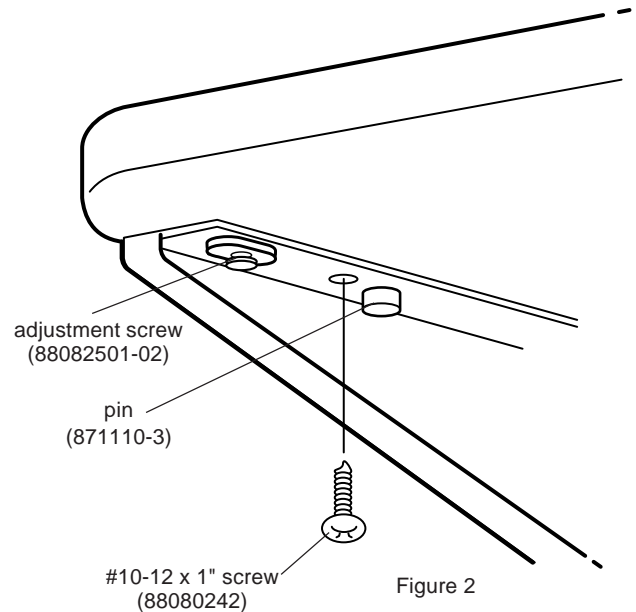

Figure 2
4. To level surface, adjust the phillips screws located at the front of cantilever. Install #10-12 x 1" screws provided into underside of supports and surface to anchor top. (Figure 2)